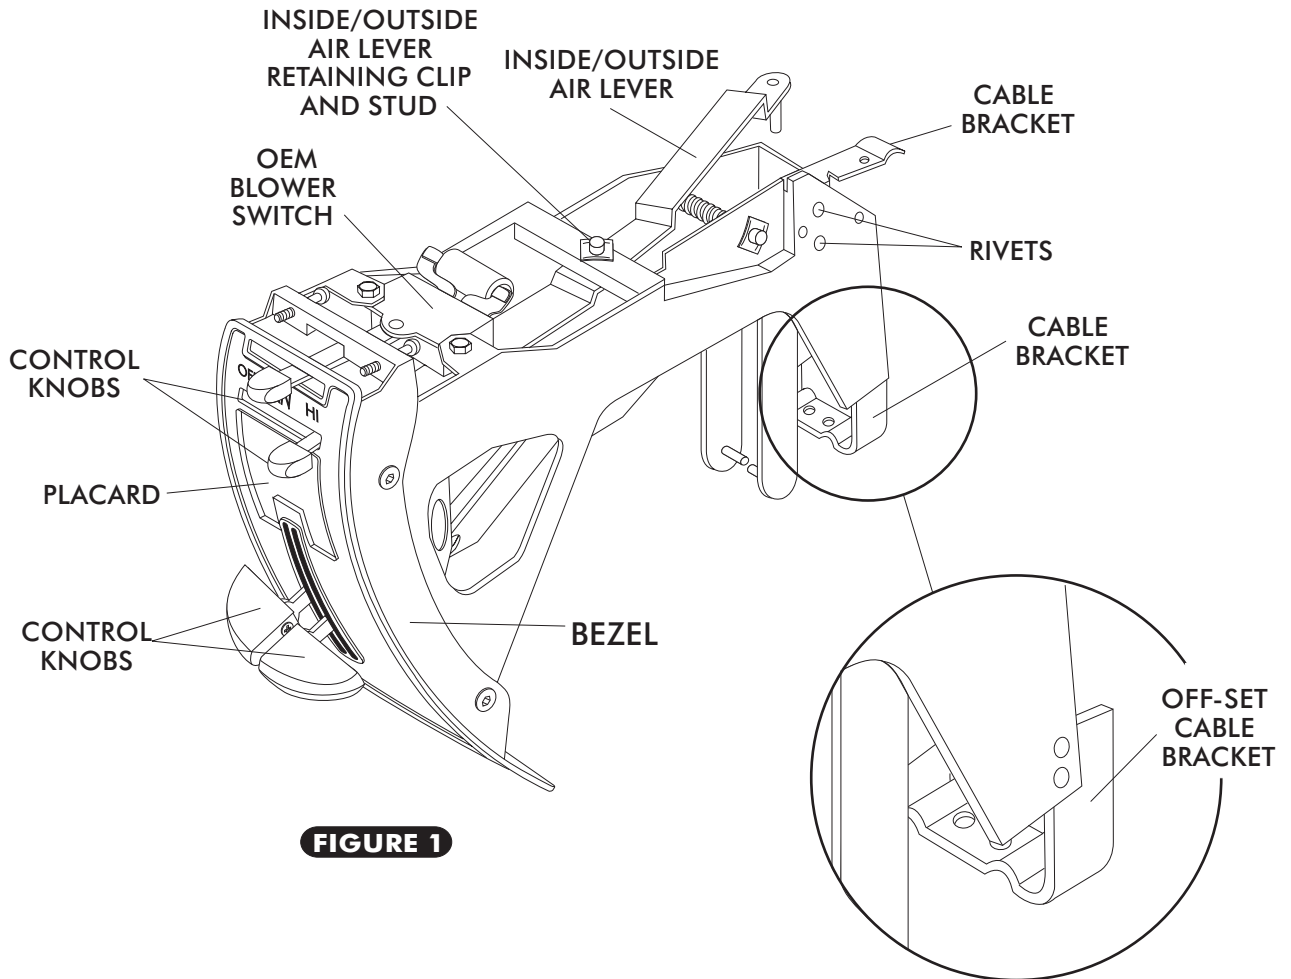

FIGURE 1
4. DISASSEMBLY FIGURE 1
- REMOVE BRACKET AND DISCARD. (AS SHOWN BELOW, SEE FIGURE 1)